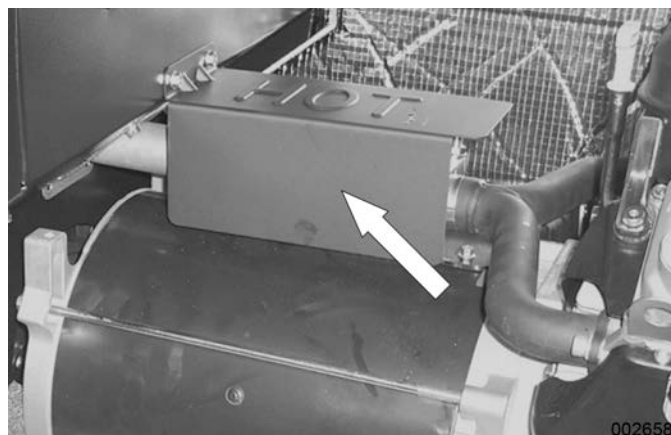

Figure 6-25.
4. **Loosen Exhaust Flex Cover:** See Figure 6-25. Use a 10mm socket to remove the two bolts from the exhaust flex pipe cover. Remove the cover.